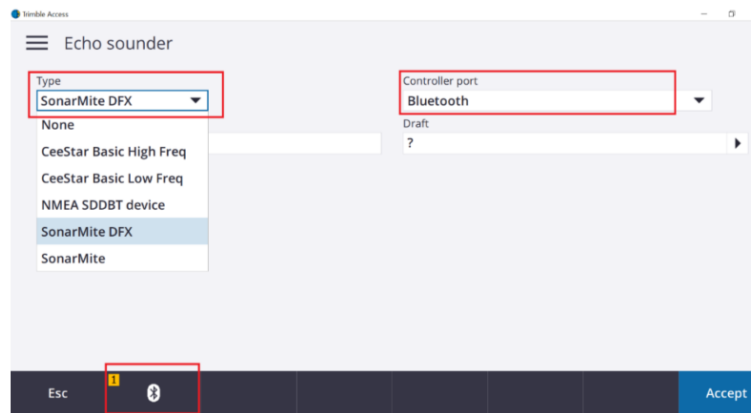

Figure 4: Location of Bluetooth Icon in Trimble Access Window.
3. Select type "SonarMite DFX". Controller port "Bluetooth", see Figure 4.
4. Click the Bluetooth icon on the bottom bar of the Trimble Access window to see paired devices. See Figure 4.